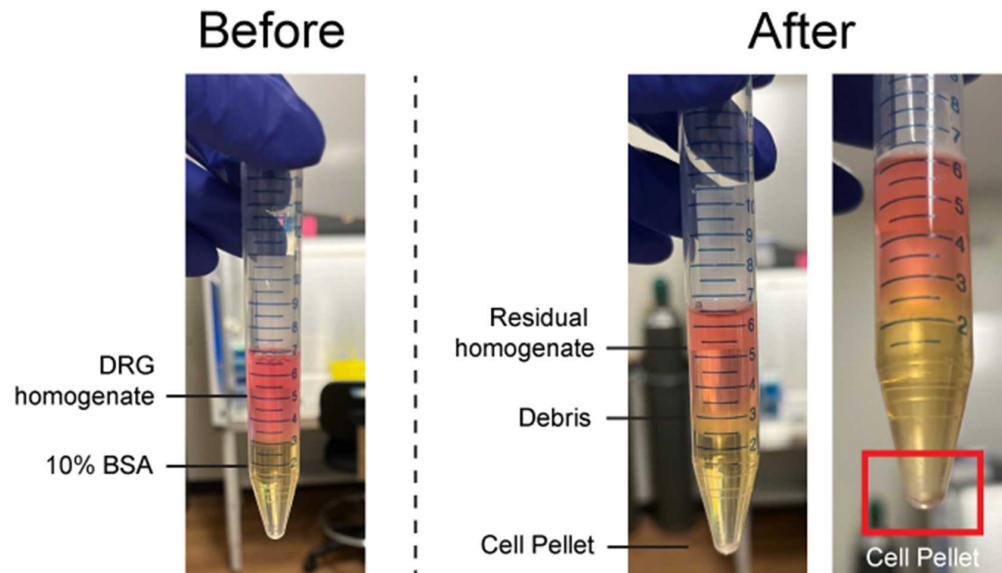

Fig 3.
17 Layer filtered cell homogenate over 10% BSA prepared in a 15 ml conical tube (Fig 3)
- 18.1 You should see a pellet at the bottom and a layer of debris trapped between the enzyme and the BSA solutions (Fig 3)